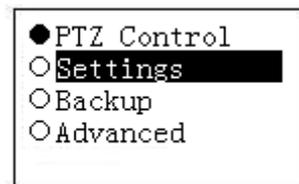

Figure 2-14
- User: The user has the PTZ control, system setup, backup, advanced setup and etc. Move the cursor to the corresponding item and then use the joystick to move the left/right to turn  to  to enable this function. See Figure 2-14.